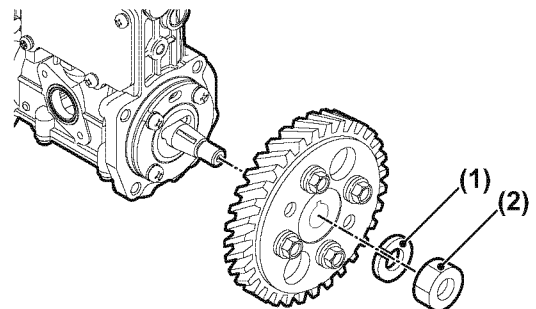

Figure 7-14
- Once the fuel injection pump drive gear and hub assembly have “popped” loose from the tapered fuel injection pump drive shaft, carefully remove the drive gear nut (Figure 7-14, (2)) and lock washer (Figure 7-14, (1)).